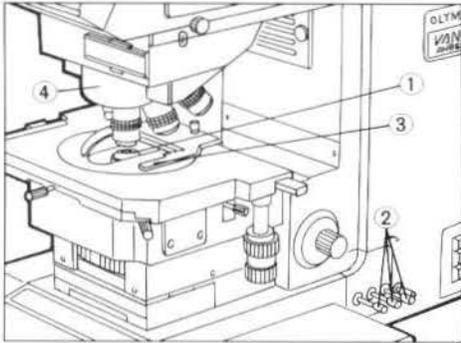
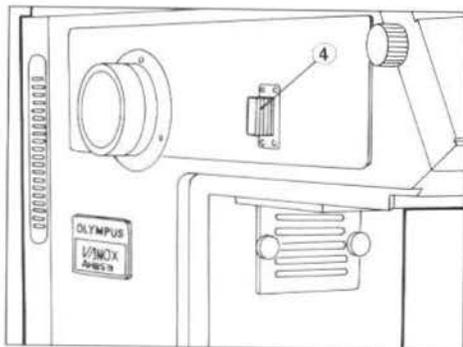

Fig. 37
Fig. 38
- ① Move the specimen slide ① out of the light path. (Fig. 37)
- ② All filters ② except the LBD filter are disengaged. (Fig. 37)
- ③ The light path is not blocked by the specimen holder ③ or anything else. (Fig. 37)
- ④ No reticle ④ is engaged in the light path. (Fig. 38)
- ⑤ The field iris diaphragm is centered.
- ⑥ The revolving nosepiece is rotated until it stops with a click. (Fig. 37)